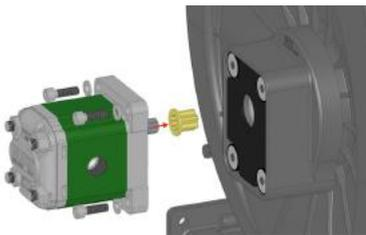

FIGURE 8
- Remove and inspect the flexible coupling (FIGURE 8). Replace it in case of obvious wear;